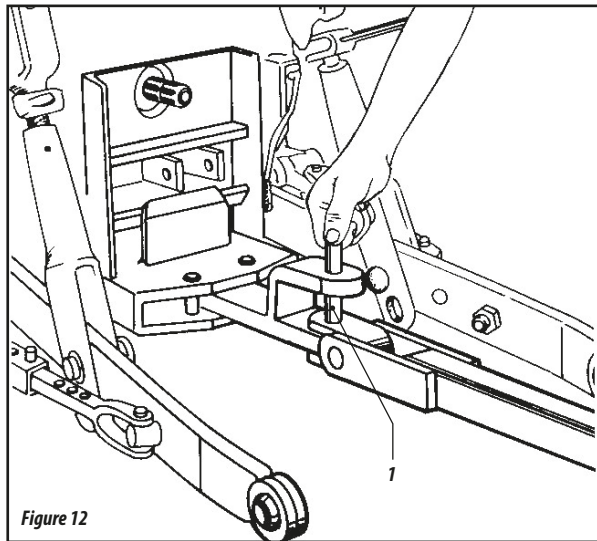

Figure 12
- 01 - To hitch the harrow on the drawbar of the tractor, must check the alignment, adjust the exact height of the hitch of the harrow, use the L coupling pin and cotter pin it as shown in Figure 12.